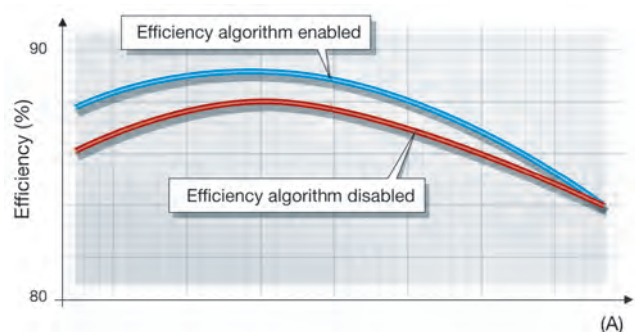

Figure 4 – A parameter such as “dead time” in a synchronous buck converter may be optimized over line- and load conditions to improve efficiency.
In a synchronous buck converter the top and bottom MOSFETs are operated so that both are never conducting simultaneously. This is guaranteed by defining a “dead time” period after one of them is turned off and before the other is turned on. When using an analog control system, the dead time is established by a fixed analog timing network, and the value of the dead time needs to be defined so that safe operation is guaranteed under the worst case combination of converter operating conditions. The downside is that under typical operating conditions the dead time is longer than required resulting in reduced converter efficiency. With digital control the dead time does not need to be fixed, but can be varied via a digital control loop as a function of operating conditions to optimize the converter efficiency (1). The efficiency algorithm actually measures the input and output energy delivery for a given dead time and then compares that result (efficiency) to another result with a slightly different delay time. The algorithm then adjusts the dead time either upward or downward to maximize the efficiency. The optimal value will change as a function of load current and other variables. This technique is especially valuable at low load as shown in the comparison in *Figure 4*. The plot shows that enabling the efficiency algorithm increases the efficiency at low load by several percentage points. The efficiency improvement is less at heavier loads, but extends over the entire operating range of the converter, more than compensating for any extra power overhead of the digital control circuitry.